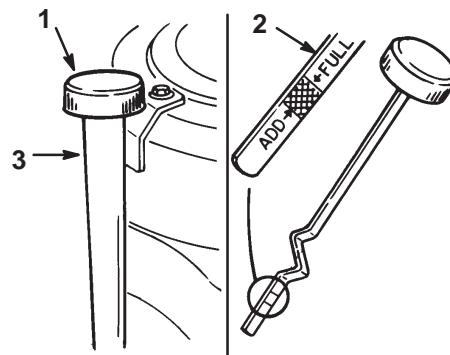

Figure 18
3. Clean around the oil dipstick (Fig. 18) so dirt cannot fall into the filler hole and damage the engine.
4. Unscrew the oil dipstick and wipe the metal end clean (Fig. 18).
5. Screw the oil dipstick fully onto the filler tube (Fig. 18). Unscrew the dipstick again and look at the metal end. If oil level is low, slowly pour only enough oil into the filler tube to raise the level to the "FULL" mark.
7. Slowly pour approximately 80% of the specified amount of oil into the filler tube (Fig. 18). Now check the oil level; refer to Checking Oil Level, page 20. Slowly add additional oil to bring to "FULL" mark on dipstick.